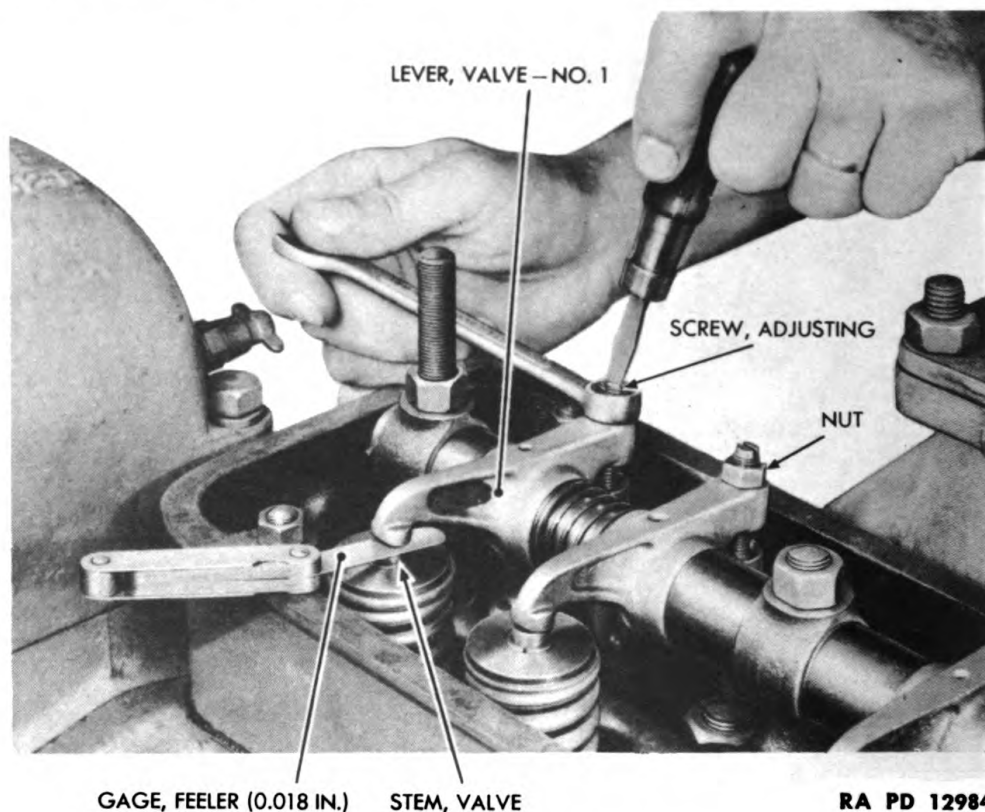

Figure 191—Checking Valve Clearance
(2) CHECK CLEARANCE BETWEEN NO. 1 VALVE LEVERS AND STEMS (fig. 191).